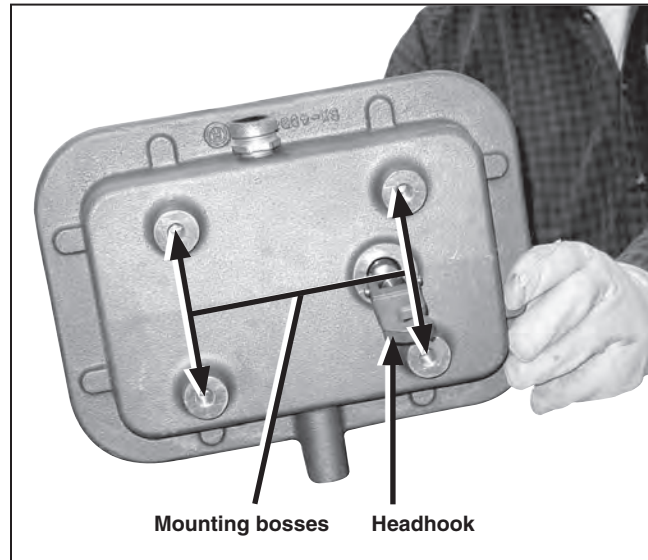

Figure 31. Charging motor mounting bosses.
- STEP 2.** Locate the four mounting bosses on the top of the motor. See Figure 31. Align the mounting bosses with the holes in the motor brackets. Rotate the headhook if necessary.